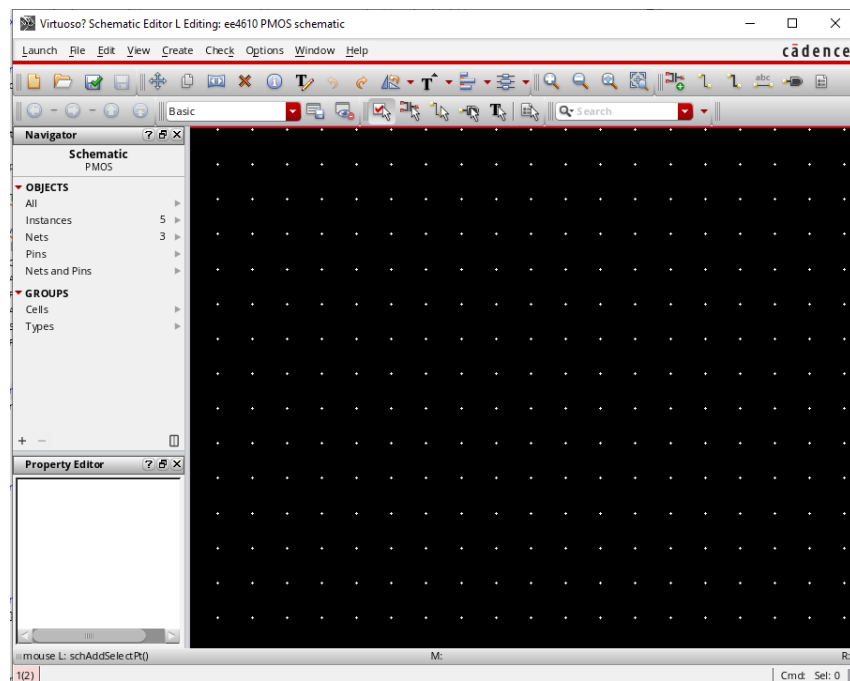
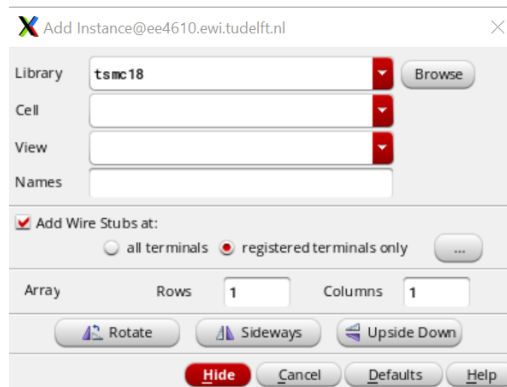

Figure 3: New schematic for exercise
Figure 4: Add instance from tsmc18
- Start *File > New > Cellview*, and give a new name for your schematic, then Fig. 3 will pop out.
- In Fig. 3, you can use the below shortcuts for your editing:
- Firstly, add an instance from tsmc18 library: press "i" in Fig. 3 and click "Browse" in Fig. 4.